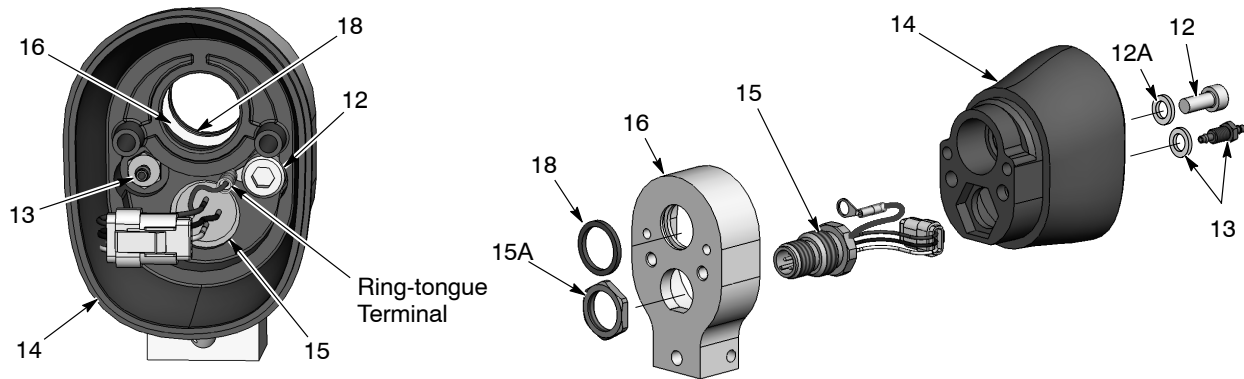

Figure 7-15 Bar-Mount Gun Disassembly 3 of 3
8. See Figure 7-15. To disassemble in the rear body assembly, remove the screw (12), lock washer (12A), and barbed fitting and lock washer (13) from inside the rear body (14). A 3-mm hex key and 1/4-in. deep-well socket are required.
9. Remove the nut (15A) from the receptacle (15), pull the adapter off the rear spray gun body, and feed the receptacle harness through the body.
10. Inspect the quad ring (18) in the adapter (16) and replace it if damaged.
**NOTE:** When reassembling, secure the ring-tongue ground terminal to the rear spray gun body with the screw (12) and torque it to 2.5 N•m (22 inch-lbs).